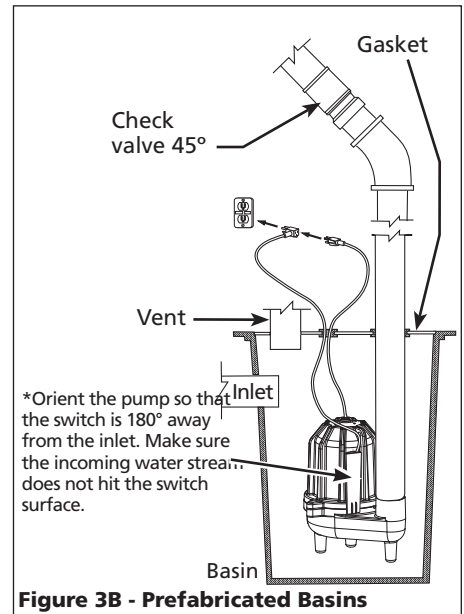

Figure 3B - Prefabricated Basins
- BCAPSE50 models are supplied with an capacitive water sensor. Orient the pump in the basin so that the water sensor is 180° away from the inlet. Make certain the incoming water stream does not hit the capacitive surface (See Figure 3B).